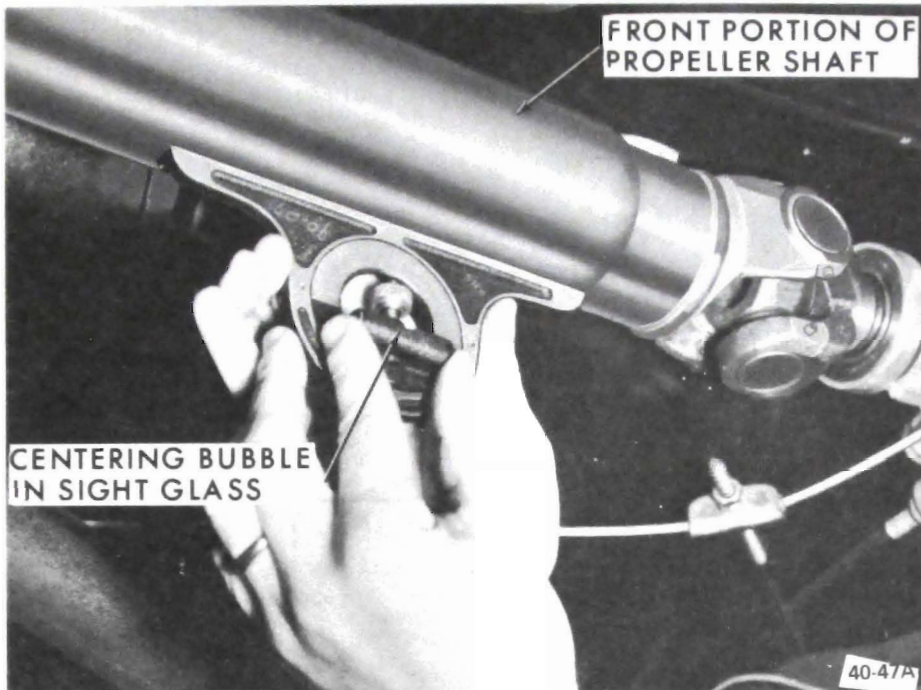

Figure 40-61 - Measuring Angle at Front of Propeller Shaft
5. Hold protractor firmly against front end of propeller shaft. See Figure 40-61. Center bubble in sight glass and record measurement in degrees ().